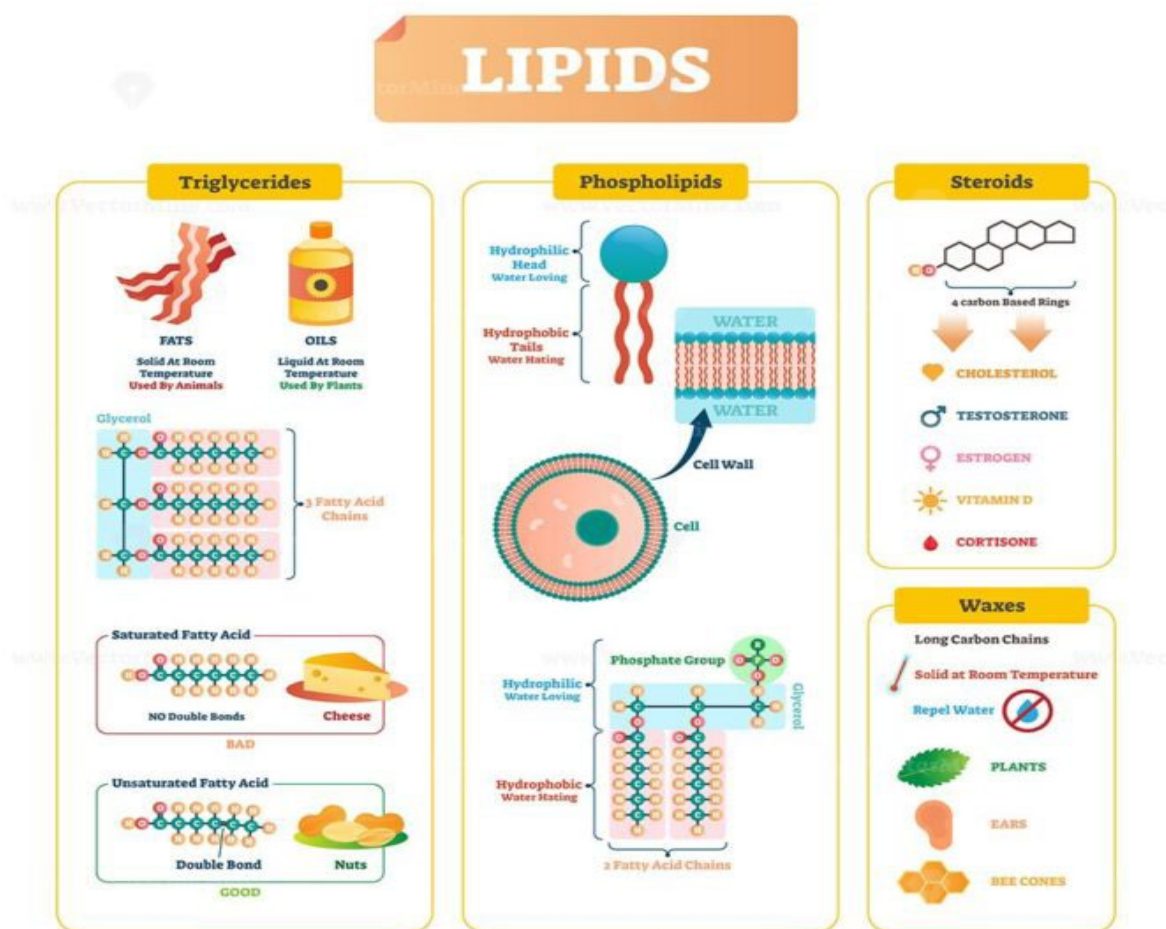

Figure 4.3: Structure of lipids
Triglycerides are the most common type of simple lipids found in our bodies and in food. Over 95% of dietary lipids are triglycerides. You can see concentrated fats in butter, vegetable oil, and meat, but they are also hidden in foods like pastries, milk, cheese, and fried foods. Natural sources include avocados, palm fruits, and nuts. A triglyceride is made of glycerol and three fatty acids. Glycerol serves as the backbone, with three fatty acids attached as shown in **Figures 4.3** and **4.4**.
- a. sex hormones such as oestrogen, testosterone and progesterone are key for reproduction and sexual characteristics. See **Figure 4.3**.